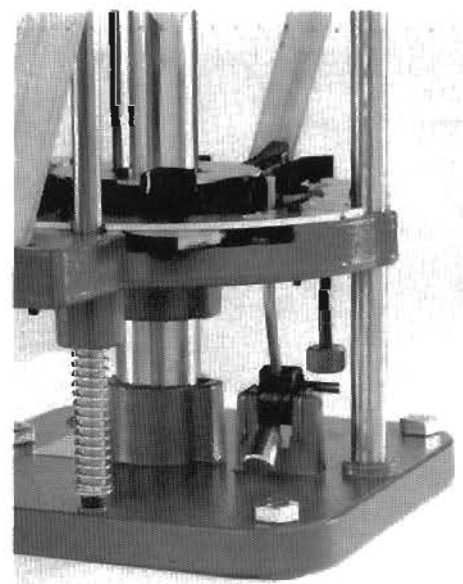

Fig. 67
**Figure 67** - When properly adjusted, the Index Drive Bolt pushes down upon the short index arm so that when the handle is pulled down the long index arm completely cams over and advances the shellplate — stopping just clear of the bottom of the shellplate.